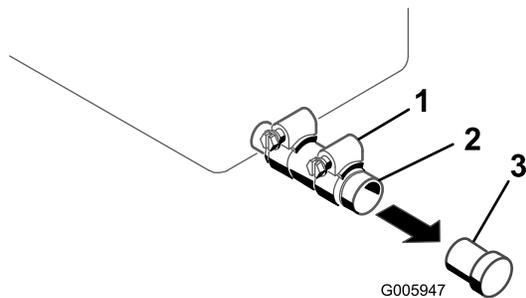

Figure 30
- Place a pan under the oil drain tube (Figure 30).
- Loosen the clamp and remove the plug (Figure 30).